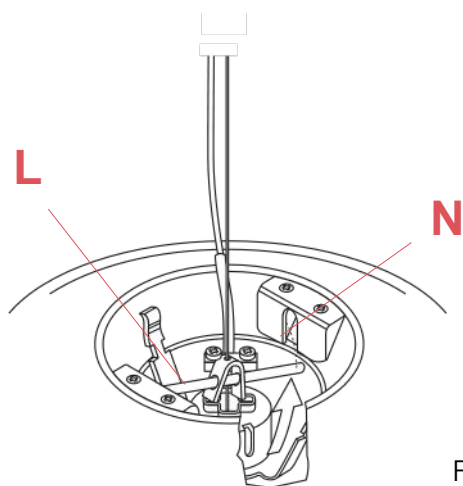

Fig.8
Hook the rod (L) into the housing (N), until it locks "clicks – in". (fig.8)